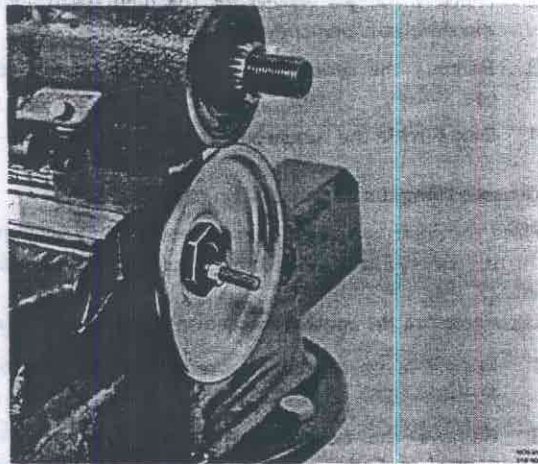

Fig. 43-160. Holed nut
4. Remove the holed nut securing the control cylinder, Fig. 43-160.